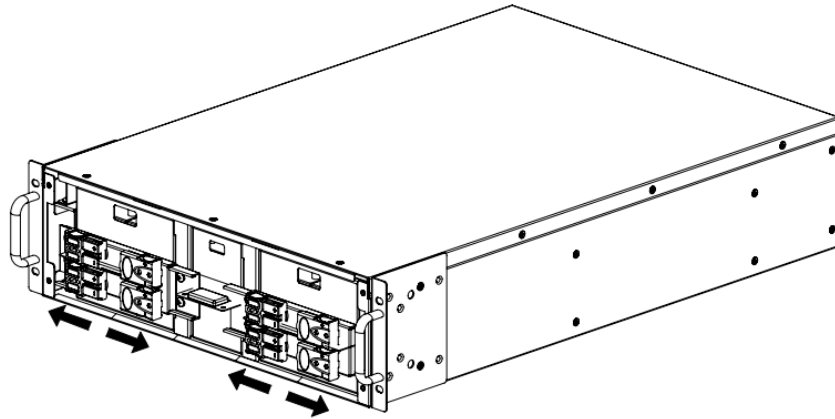

Figure 30: Disconnect Internal Battery Cartridges
22. Disconnect all three battery cartridge connectors (see Figure 30).